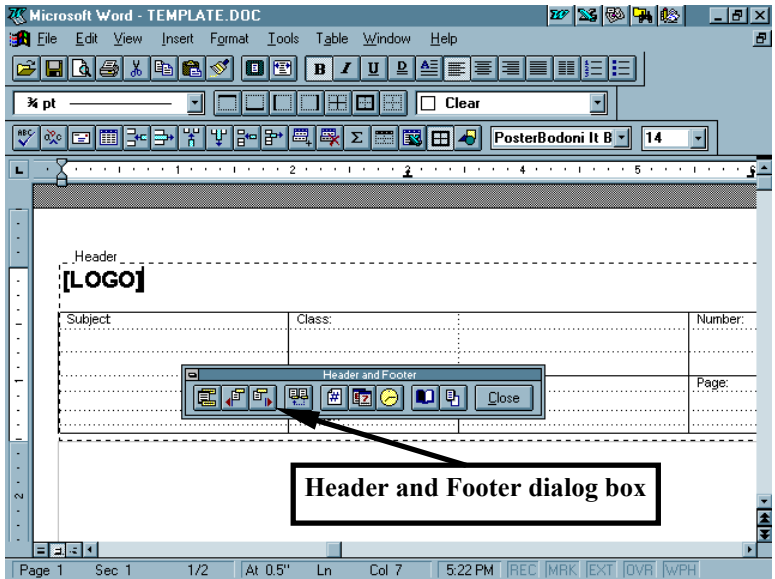

Figure 9
19. Refer to Figure 9 for a view of the Header and Footer. Note the detail located in the Header and Footer. It is designed to be typed in using the Header and Footer data available in the word (\*.doc) files located in the c:\polyproc directory (more on this in Chapter 4).